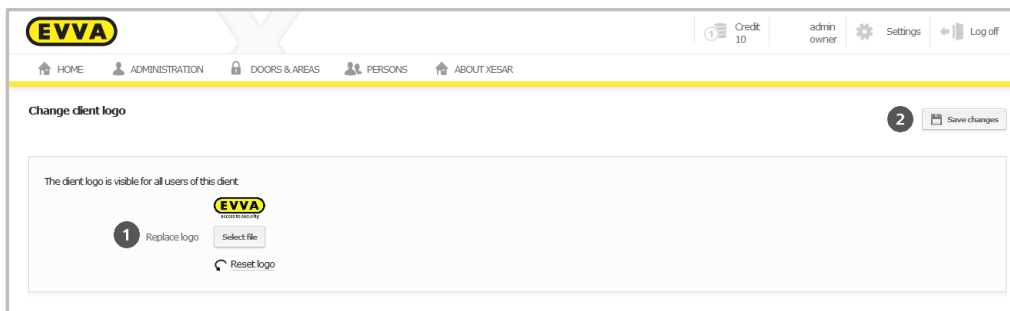

Figure 58: Changing the client logo
- **Select file ❶** (Figure 58: Changing the)
- Click **Save changes ❷** (Figure 58: Changing the)